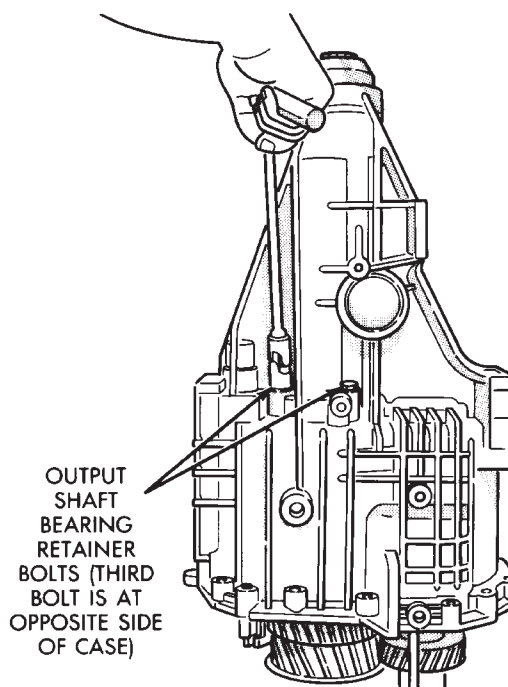

Fig. 29 Removing/Installing Output Shaft Bearing Retainer Bolts—2WD
- (1) On 2-wheel drive transmission, remove three bolts that attach output shaft bearing retainer to rear case (Fig. 29). Bolts are rear of shift tower opening.